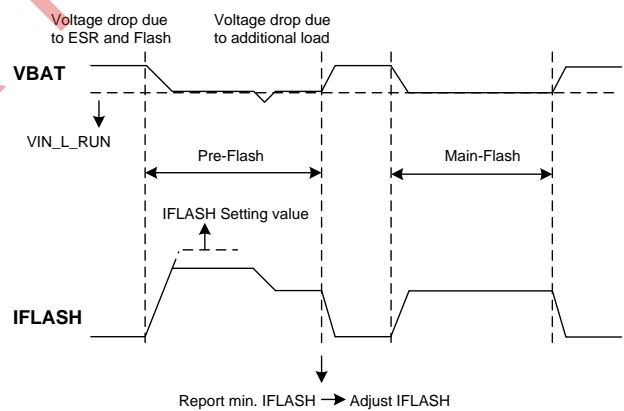

Figure 15: Pre-Flash Operation
1. Before the flash, if VBL\_SD = 1 and the input voltage is lower than the threshold set by VBL\_RUN, the device remains disabled and sets the fault bit FT\_VBATL to 1 (see Figure 15). Conversely, if VBL\_SD = 0, the device ramps up to the current set by I\_TX and sets the fault bit FT\_VBATL to 1. The fault bit is cleared after it is read back or the input power is reset.